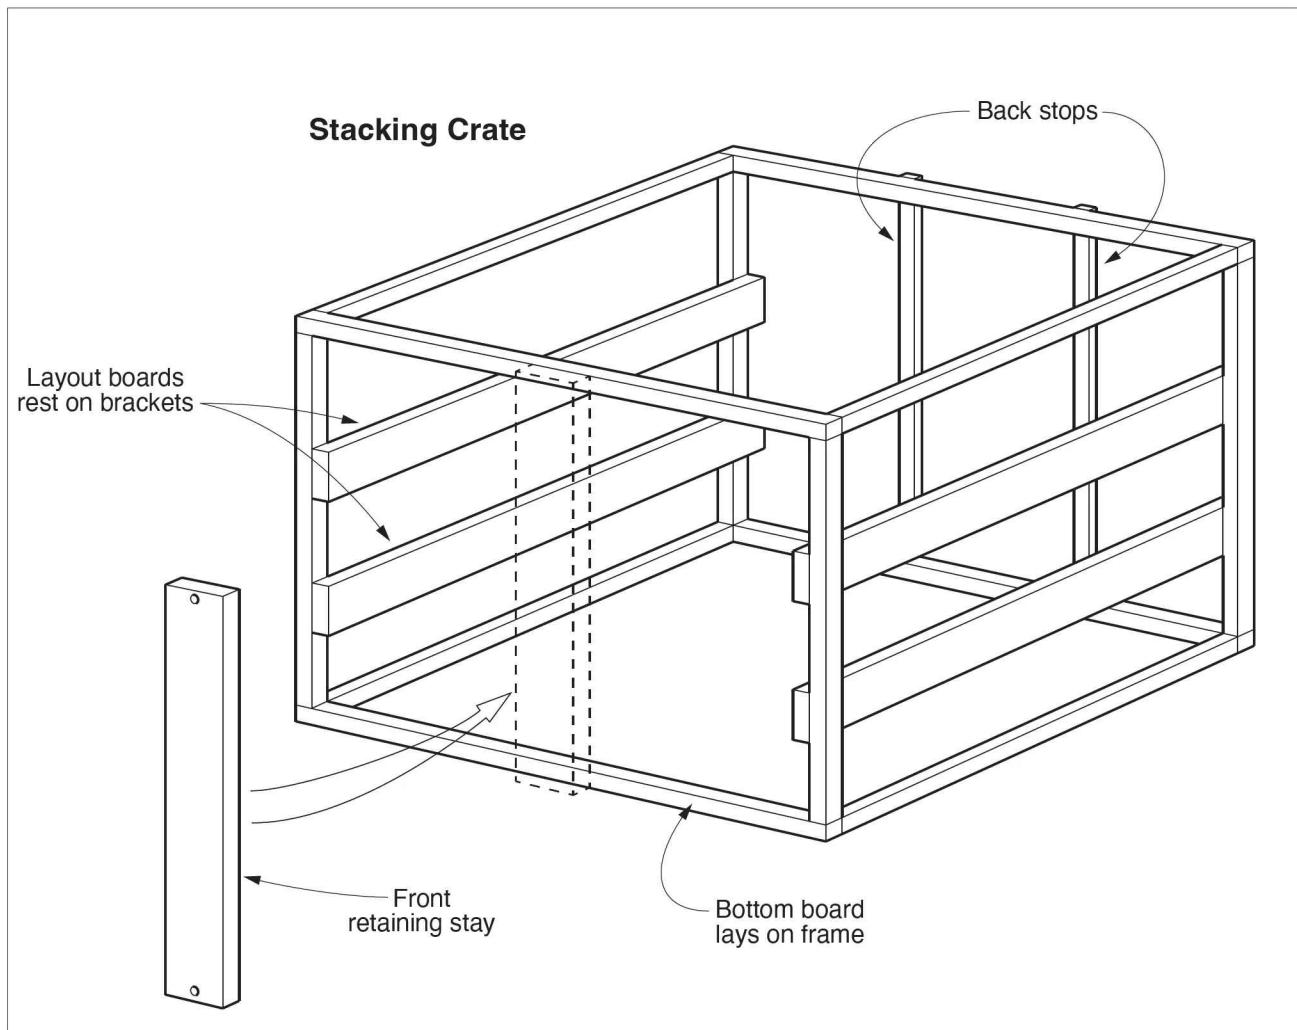

Figure 9: A stacking crate.
**Stacking** is where two or three baseboards are slid into a simple frame, made in most cases of timber. Once fully in place, either a locking baton is bolted across the full height of the stack or alternatively each board is bolted to the framework to prevent them from sliding out of the frame. (See Figures 9 and 10.)